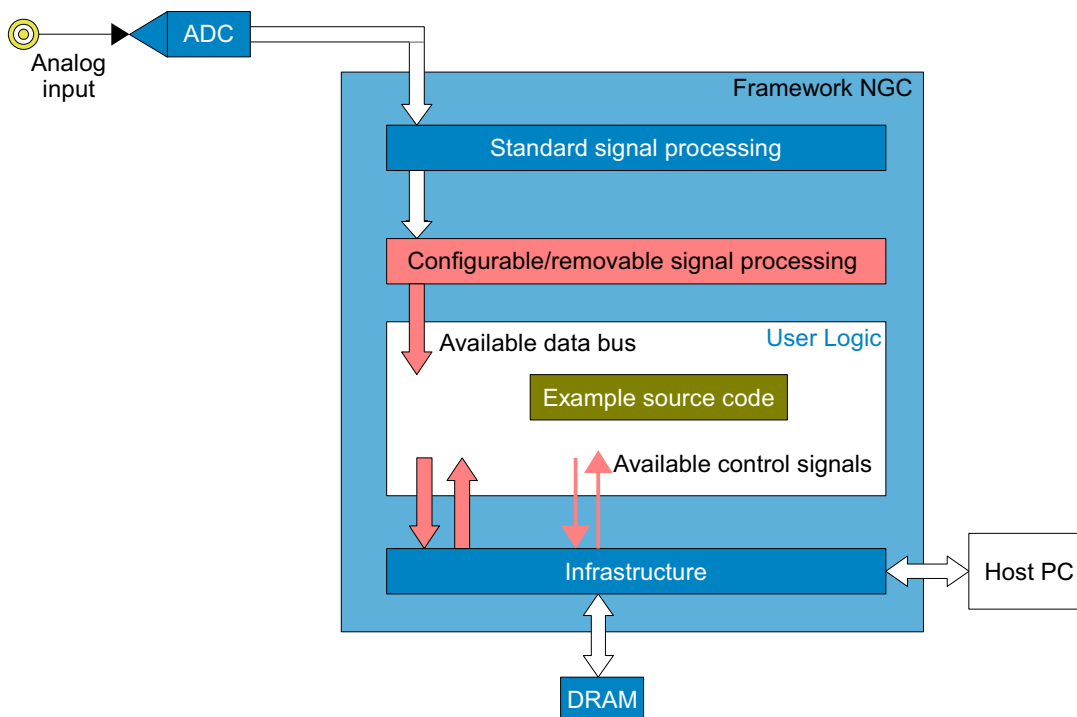

Figure 1: Principle of the ADQ Development Kit.
The principle structure of the ADQ Development Kit is shown in **Figure 1**. The ADQ Development Kit is a design project for the Xilinx ISE tool. The project contains a Framework netlist (NGC) file with necessary digitizer infrastructure and a User Logic area for custom real time functions. The Framework NGC contains, for example, ADC interface, DRAM controller and programmable signal processing. It also contains predefined signal processing that can be configured or removed in the custom design. The removable blocks are available in the standard digitizer product, but they may occupy a significant amount of resources inside the FPGA. If the custom design do not require these blocks, they may be removed to free resources.
- Include/exclude specific blocks (box in **Figure 1**)
- Select data flow connections in User Logic (wide arrows in **Figure 1**)
- Select control signals in User Logic (narrow arrows in **Figure 1**)